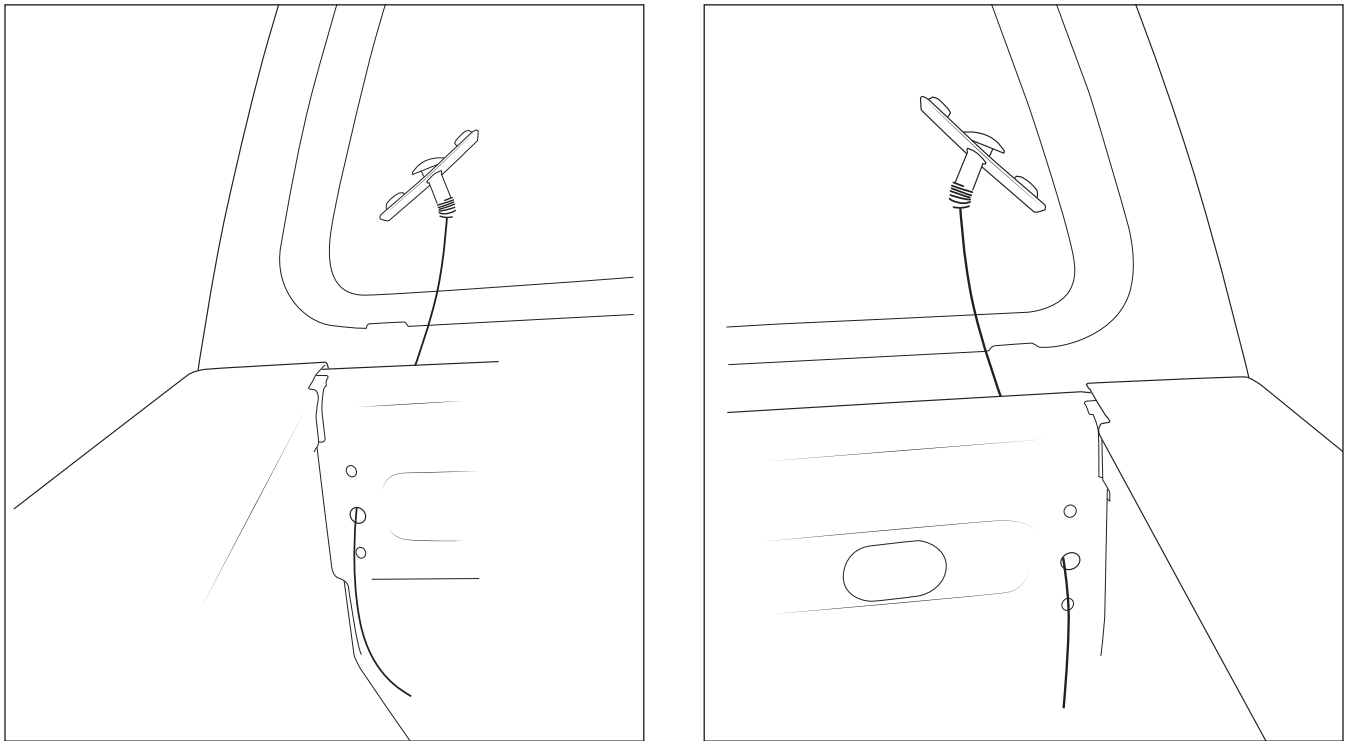

Figure 5
- A. Thread provided fish wire onto M10x35 carriage bolts with weld-nut plates and fish through holes. Hold in place with retaining washers (fig. 5).